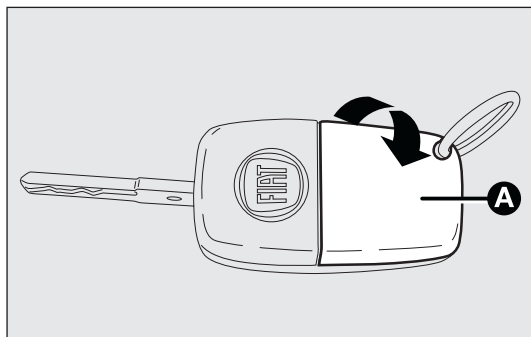

fig. 8
- ☐ open the snap-fitted lid A-fig. 8 as shown by the arrow;